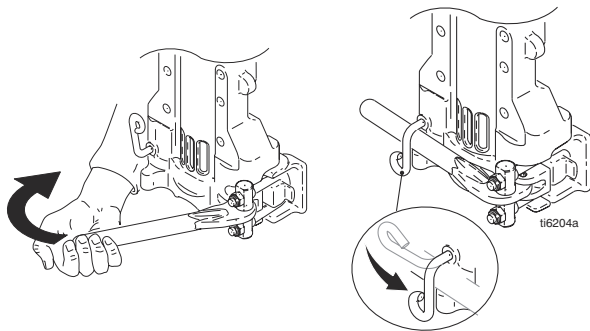

FIG. 27
6. FIG. 27. Tighten latch and rotate latch lock into locked position.